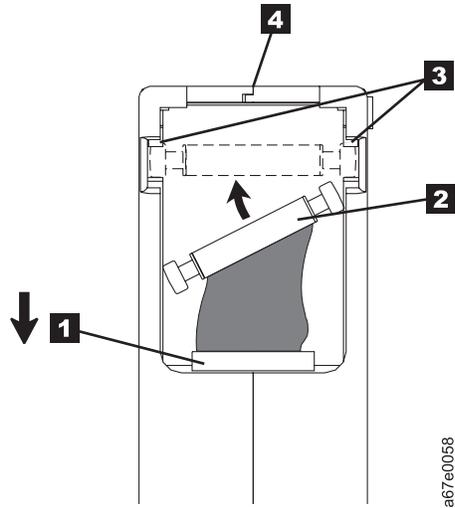

Figure 51. Placing the dislodged leader pin into the correct position. The cartridge door is open to show the leader pin.
1. Slide open the cartridge door (**1** in Figure 51 on page 251) and locate the leader pin **2**. You may need to shake the cartridge gently to roll the pin toward the door.